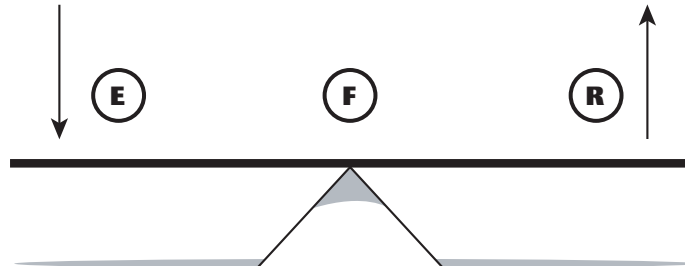

Fig. 3
- (b) This class of lever always changes the direction of the effort force, so that the effort and the resistance move in opposite directions: a downward push on one side of the lever can result in an upward push or pull on the other. (Fig. 3)